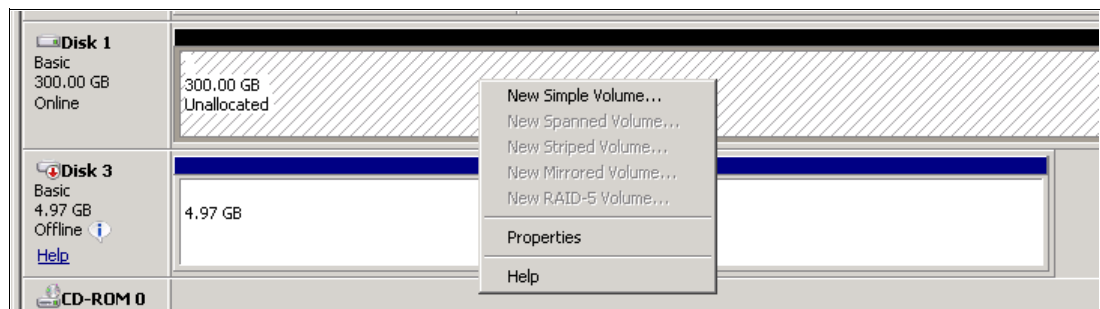

Figure 5-41 New Simple Volume
9. Right-click the pane on the right side and click **New Simple Volume**, as shown in Figure 5-41.